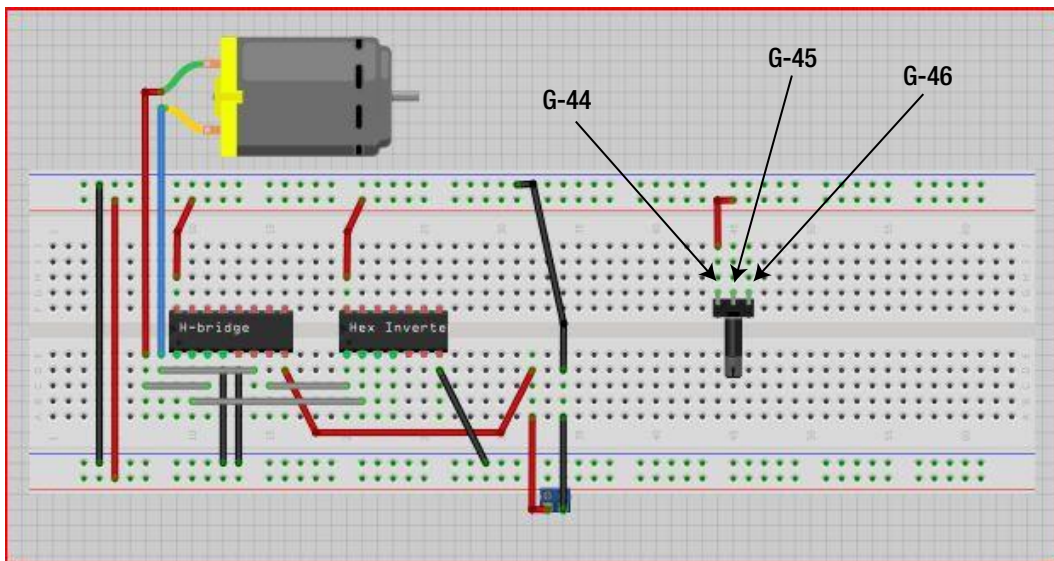

Figure 15-11. Attach the potentiometer and its power (+5V) to the solderless breadboard
17. Add the 3-pin potentiometer to the solderless breadboard and attach the leftmost pin of the potentiometer to 5V power. Do this by inserting the potentiometer so its pins are plugged into G-44 through G-46. Figure 15-11 illustrates this process.